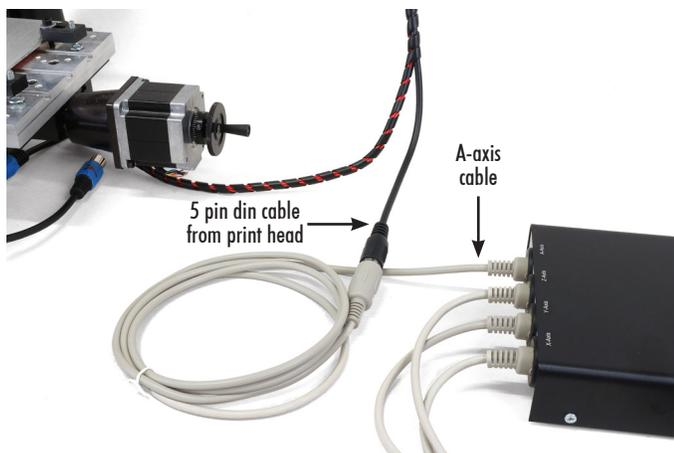

FIGURE 5
- Plug the 5 pin din cable that is on the print head into the “A” axis drive cable from your PC or our P/N 8760 CNC Driver Box. We use the A-axis cable to drive the print head stepper motor. (see Figure 5)
UBUNTU FIGURE 5